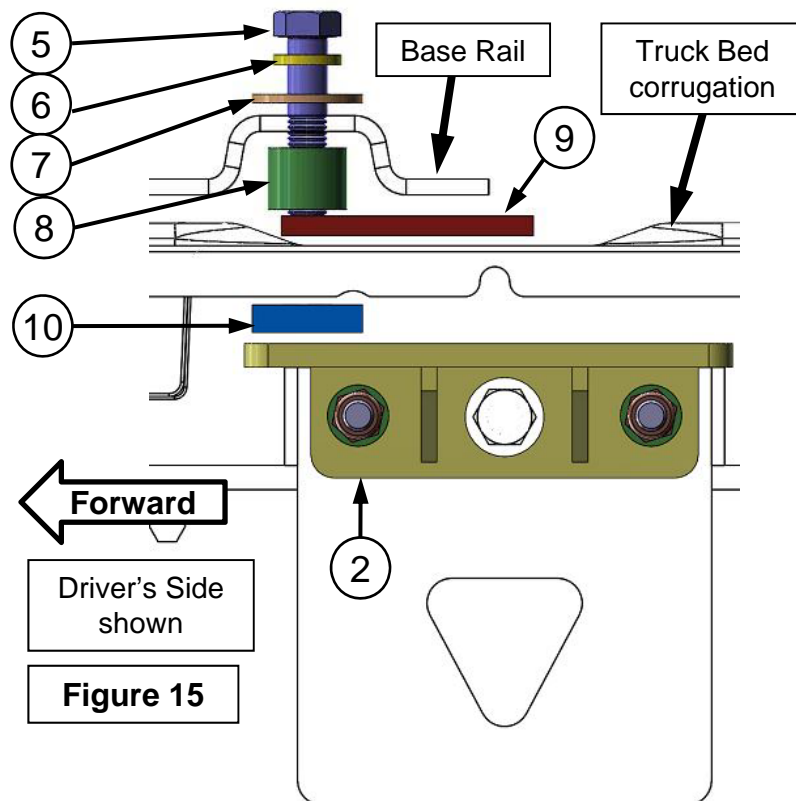

Figure 15
27. Secure the rear base rail to the rear driver's side bracket (item 2) using the 5/8" hardware (items 5,6 & 7) Install the base rail spacer (item#8) as shown. Install the slotted end spacer (item #9) as shown between the truck bed and rear base rail and spacer plate 7/16 (item#10) as shown between the bottom of truck bed and top of rear bracket and align with bolt (item#5) . See Figure 15. The slotted end spacer will be on the rear side of the base rail. See Figure 16.
28. Repeat Step 18 for the passenger side rear bracket (item 4) .